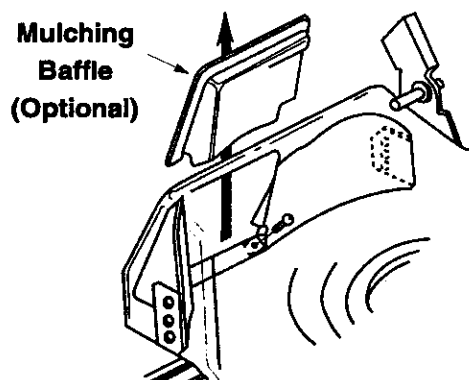

Figure 10
**NOTE:** If your mower is equipped with a mulching baffle, it is in place on the mower. To remove the mulching baffle, lift the rear discharge door on the mower. Remove the mulching baffle. See Figure 10.